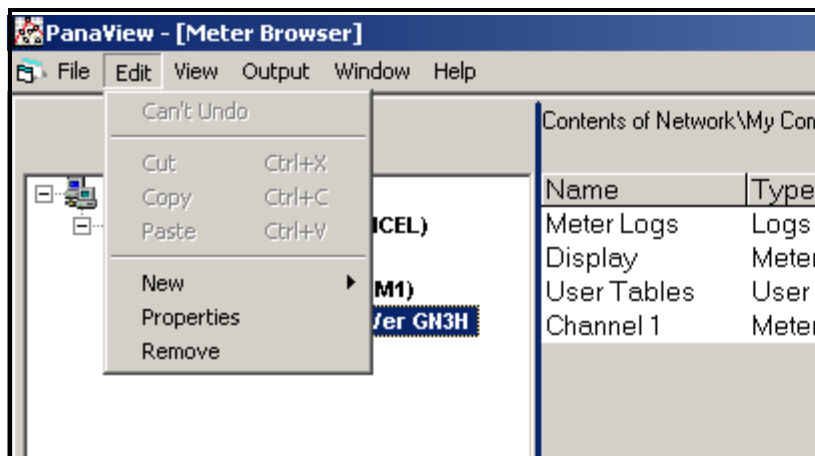

Figure 25: Properties Option in the Edit Menu
2. Open the "Edit" menu and select the "Properties" option, as shown in Figure 25.